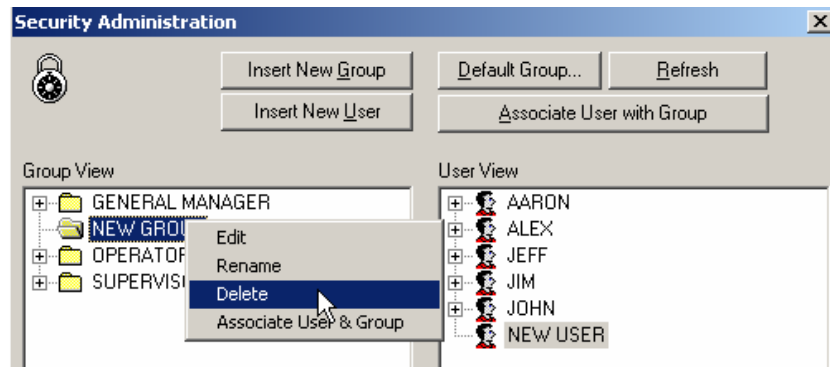

Figure 9.54. Deleting Users and Groups
- Right-click on the item and select **Delete** from the pop-up menu, as shown in **Figure 9.54**.